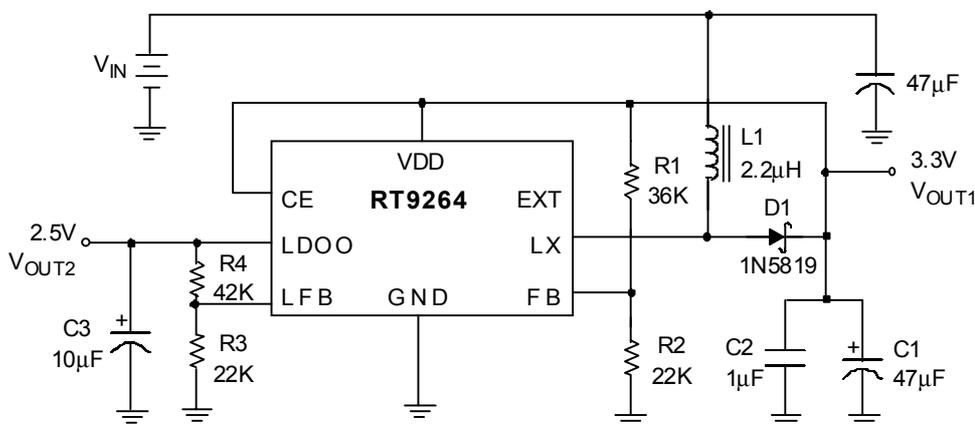
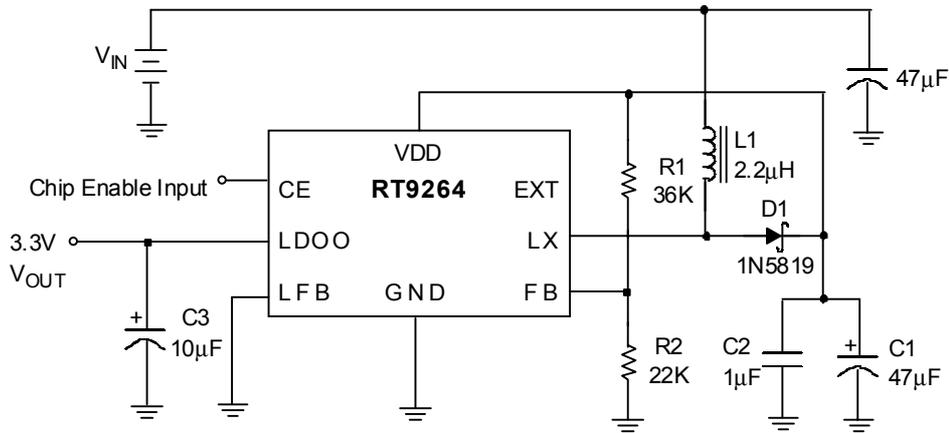

Fig. 1 RT9264 Typical Application for Portable Instruments
Fig. 2 Application Circuit with Zero-Output-Current Shutdown Mode Control
Referring to application circuits Fig.1 to Fig.3, the output voltage of the switching regulator (V_{OUT1}) can be set with Eq.1.
- The following diagram is an example of 2-layer board layout for application circuits Fig.1 and Fig.2.